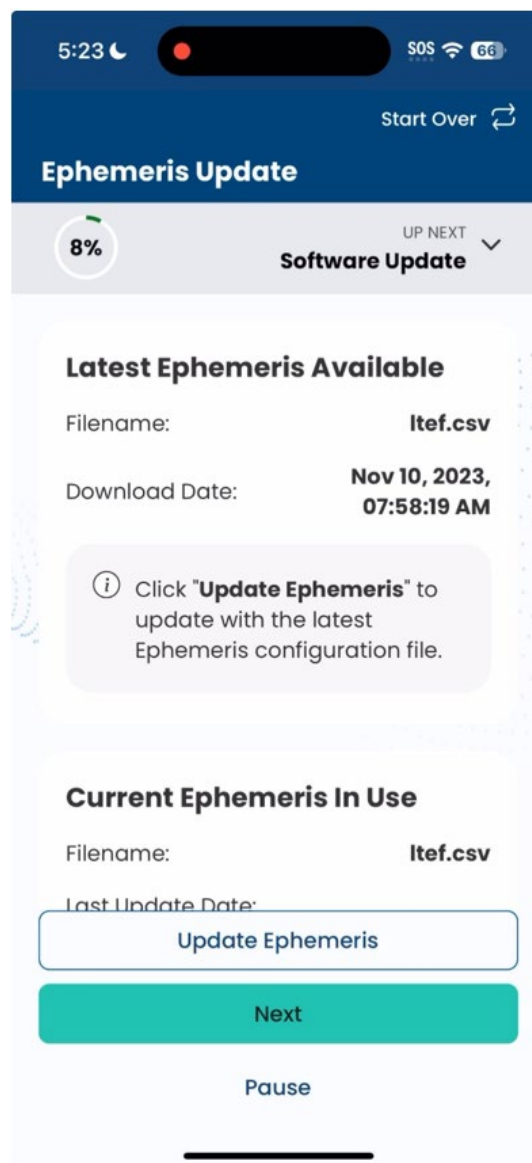

Figure 92: Uploading the ephemeris file to the user terminal
1. The first step is to upload the latest OneWeb satellite ephemeris data. To do this, click **Update Ephemeris** as indicated in Figure 92. When this is finished you will see a success message.
Note: As mentioned at the beginning of this chapter, the app would have downloaded the latest ephemeris file from the cloud to the smartphone. The name of the file downloaded to the smartphone (ltof.csv) and the download timestamp are shown on the screen in Figure 92. This screen also shows the current ephemeris file in use on the UT and when this ephemeris file was last updated on the UT.